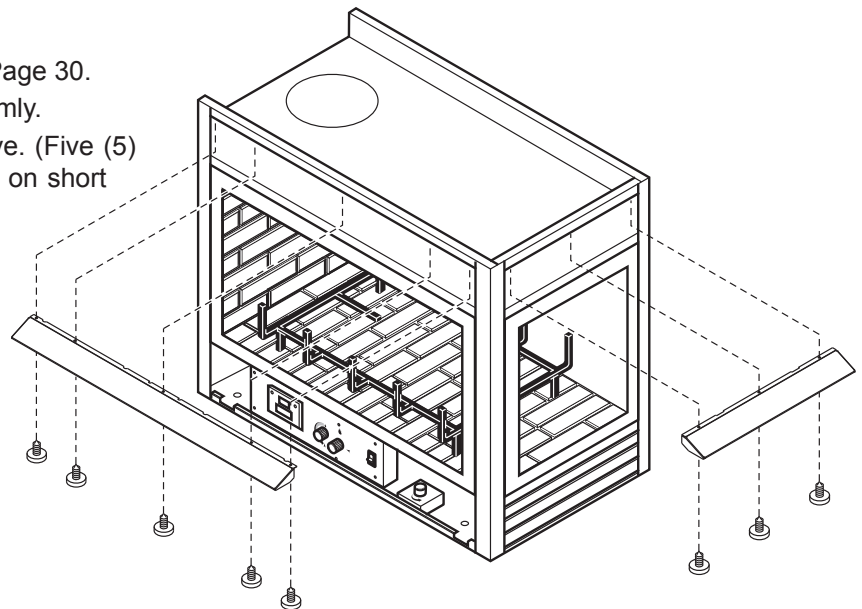

Figure 9 - Install ALL Canopies
2. Remove three (3) top louvers by pulling firmly.
3. Locate screws on upper frame and remove. (Five (5) screws on long side and three (3) screws on short side.) *Figure 9*